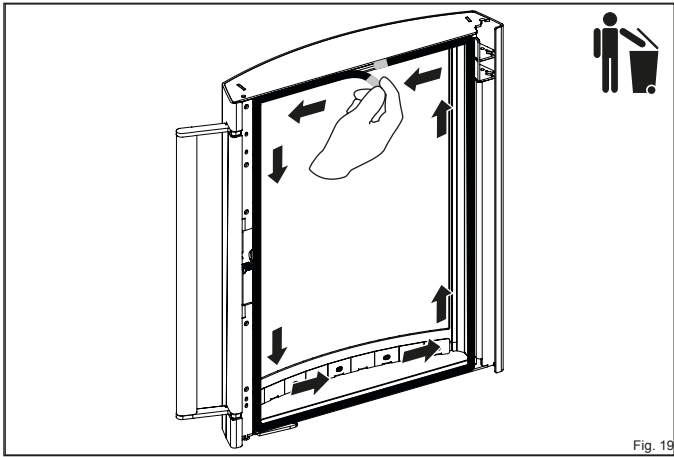

Fig. 19
- ▶ **Pull the old seal out of the rail starting at one end and dispose of it in the waste (Fig. 19).**